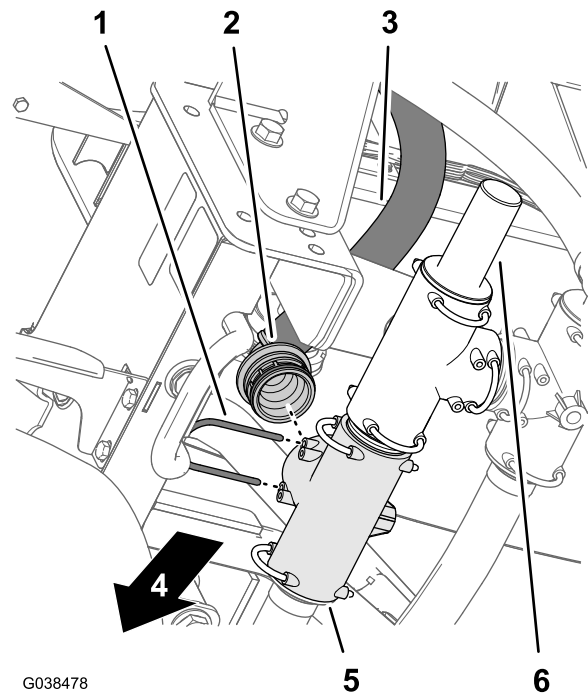

Figure 75
4. Assemble the 90° barbed fitting of the sprayer supply hose into the forward, left T-fitting (Figure 75).